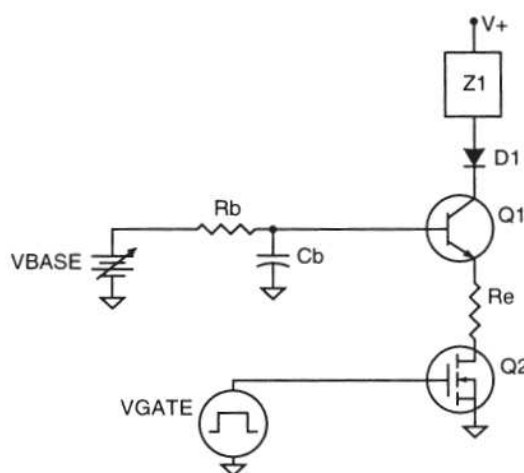

Figure 3.3 Basic Hybrid Cascode Configuration
The Power Amplifier (PA) is a hybrid cascode amplifier made up of high voltage bipolar transistors and low voltage power MOSFETs. See Schematic 4.5. Figure 3.3 shows the basic hybrid cascode amplifier configuration. The combination of Q1 and Q2 make up a fast, high-voltage amplifier that can be controlled by the combination of the dc voltage VBASE, and the fixed amplitude, variable pulse width signal, VGATE. In the OFF condition, VGATE is near ground, turning off Q2 so that no drain current can flow. Thus no base or emitter current can flow in the bipolar transistor. Since V+ is always greater than VBASE, the collector base junction is reverse-biased, so no collector current will flow and no power is delivered to the load. Turn-on commences with VGATE rising rapidly to about +10V. This results in a large pulse of base current flowing in Q1 from Cb, quickly turning Q1 on